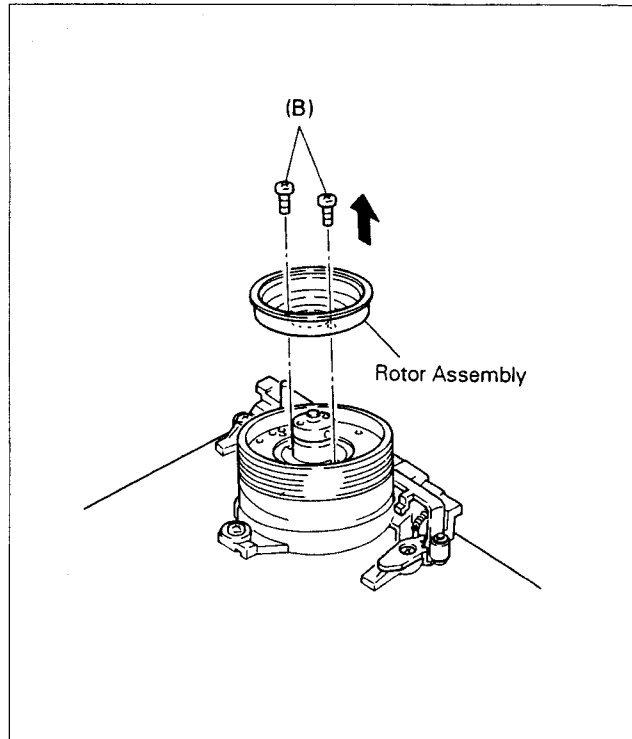

Fig. 2-6-2 Rotor assembly-1
- 4) Overlap holes (a) of the Upper Drum with holes (b) of the Rotor Assembly (align holes in 3 locations) and secure with 2 screws (B) (see Fig. 2-6-2).